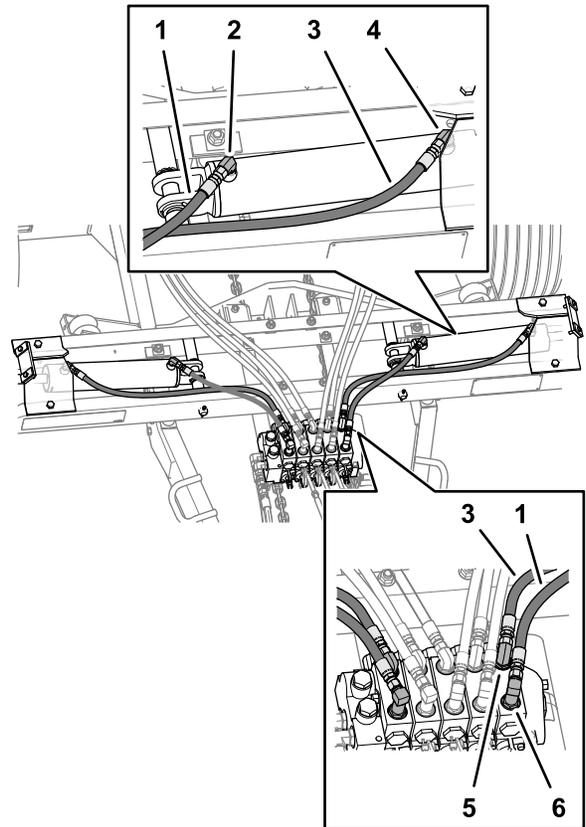

Figure 18
2. Install the short hose between the long 90° fitting in the control valve and the 90° fitting in the retract port of the lift cylinder (Figure 18).